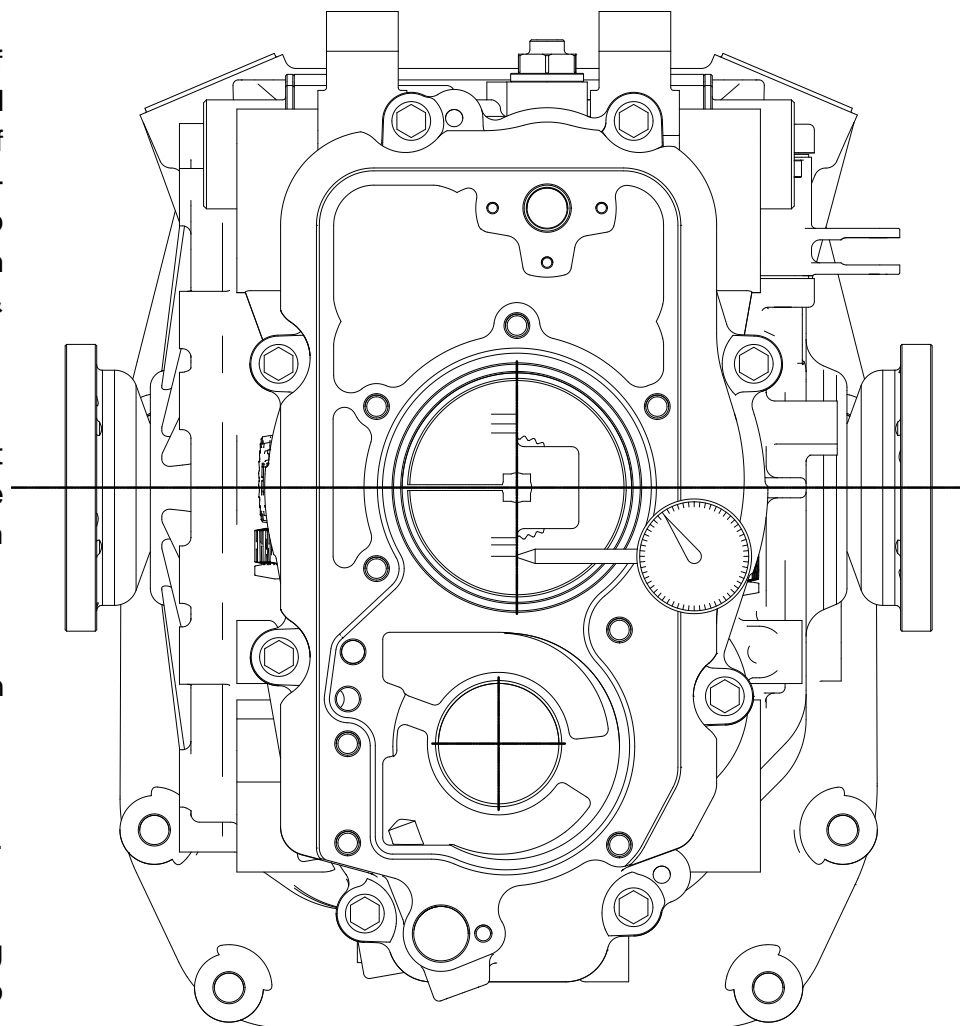

Figure 6- Crownwheel & Pinion Backlash Setting
Measure and record the dog face clearance for 5th and 6th gears. Their position in the maincase, (furthest away from the datum face), means any dog clearance errors due to tolerance build up, will be at their worst. Therefore it is acceptable to adjust the barrel position according to these readings. Any difference in the dog face clearance between these gears must be averaged out by changing the barrel setting spacer (32). Spacers of various thicknesses are available, as shown in Fig.6.
In order to change this spacer, the face plate of the fixture, the mainshaft locknut (110), selector rail (114), selector forks (22) and the barrel bolt (118) must be removed. (Please note for clarity the selector rail (114) and selector forks (22) have not been shown in Fig.6).